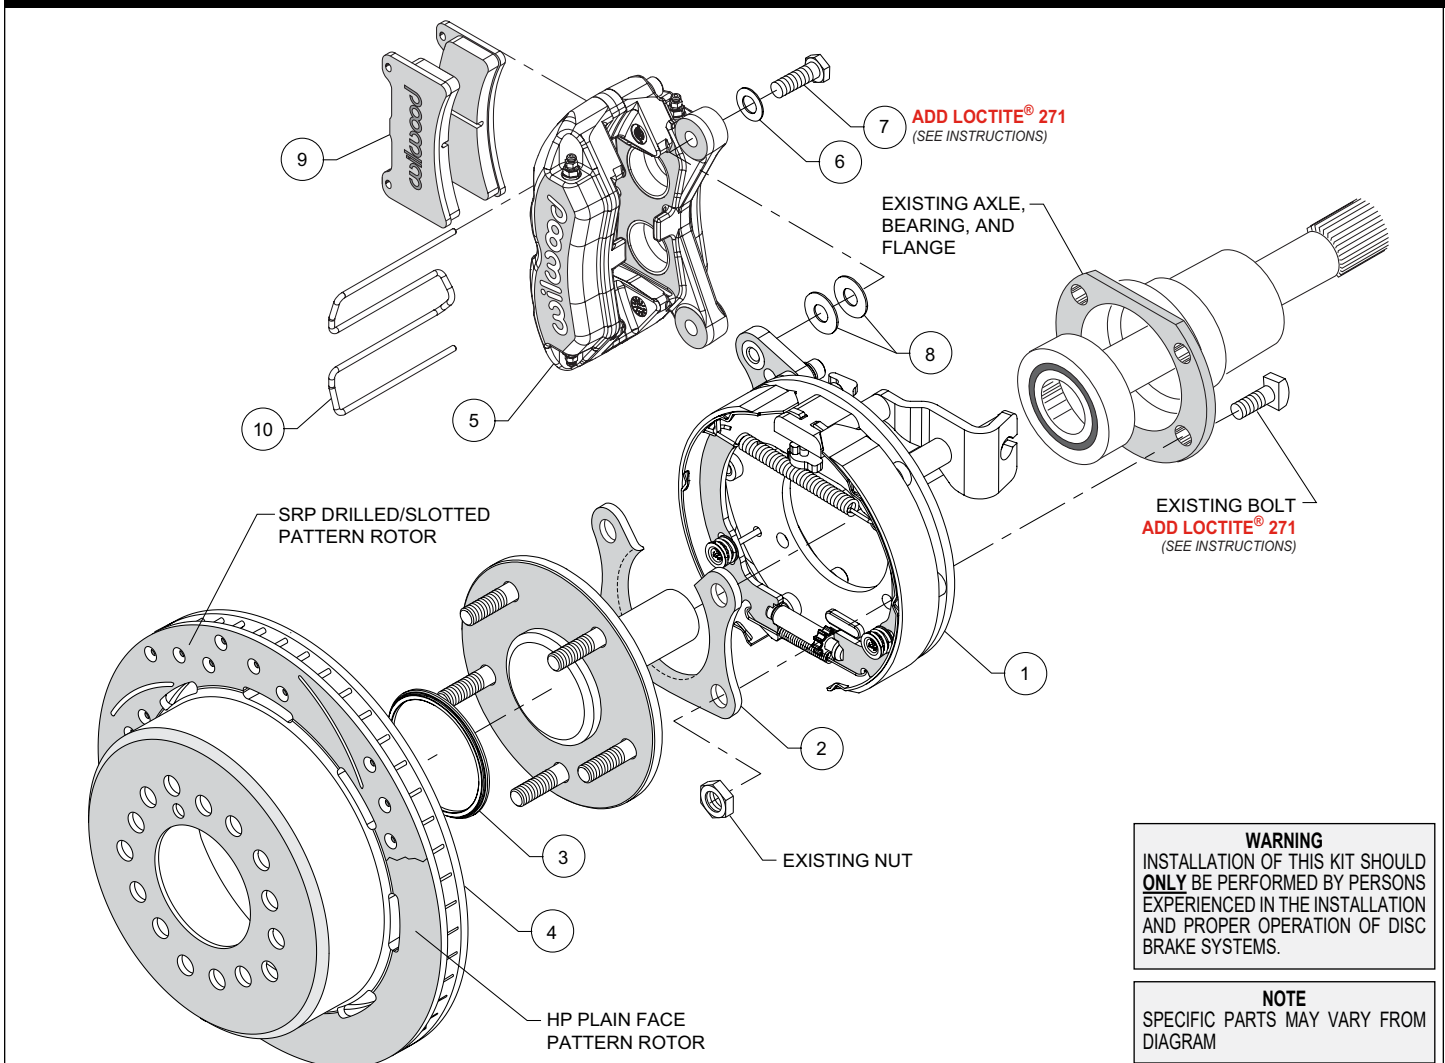
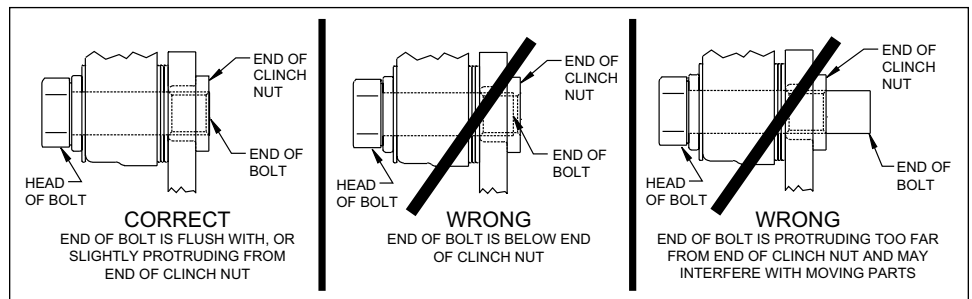

Figure 1. Typical Installation Configuration
Figure 5. Clinch Nut Engagement Diagram
NOTE: Numbers in parenthesis refer to the parts list and Figure 1 on the preceding pages.
CAUTION: All mounting bolts must fully engage clinch nuts. Be sure to check that all bolts are either flush or protruding through flanged side of clinch nut after shimming, Figure 5.
- Orient the bracket assembly (1) as shown in Figure 1 and Photo 1 and slide it onto the axle. Insert the axle and bracket into the axle housing. Ensure that the bracket assembly backing plate fits flush against the axle housing flange.
- Install the bearing retainer (2) with the opening pointing upward and the lip facing inward (toward the bearing), as shown in Figures 1 and 4, and Photo 2. Secure retainer and bracket assembly to the axle housing flange using the Original Equipment Manufacturer (OEM) bolts and nuts, Figure 1. Apply red *Loctite*® 271 to the OEM bolt threads and torque to OEM specifications.
- Slide the rotor registration adapter (3) onto the axle register on the axle flange with the smaller O.D. facing toward the rotor/hat (4), Photo 3. Align the correct hole pattern in the rotor/hat with the stud pattern on the axle flange and slide into place, Figure 1 and Photo 4. **NOTE:** The rotor/hat must fit flush against the axle flange or excessive rotor run out may result. Install three lug nuts (finger tight) to keep the rotor/hat assembly in place while continuing with the installation. **NOTE:** Some OEM and after market axles come with stud sizes larger than 0.50" diameter. Verify stud size and have a qualified machine shop drill the bolt circle of the hat/rotor to the correct stud size, if necessary.
- NOTE:** Please reference the caution statement at the beginning of the assembly instructions. Mount the caliper (5) onto the caliper mounting bracket (1) using bolts (7) and washers (6), as shown in Figure 1. Initially place one .035" thick shim (8) on each bolt between the caliper and the bracket, Photo 5. Temporarily tighten the mounting bolts and view the rotor (4) through the top opening of the caliper. The rotor should be centered in the caliper, Photo 6. If not, adjust by adding or subtracting shims between the bracket and the caliper. Always use the same amount of shims on each of the two mounting bolts. **NOTE:** The end of each bolt must be flush with or slightly protruding from the head of the clinch nut, as shown in Figure 5. If necessary place spare shims between washer (6) and caliper mounting ear to achieve the proper clinch nut engagement. Once the caliper alignment and clinch nut engagement are correct, remove the bolts one at a time, apply red *Loctite*® 271 to bolt threads, and torque to 40 ft-lb.